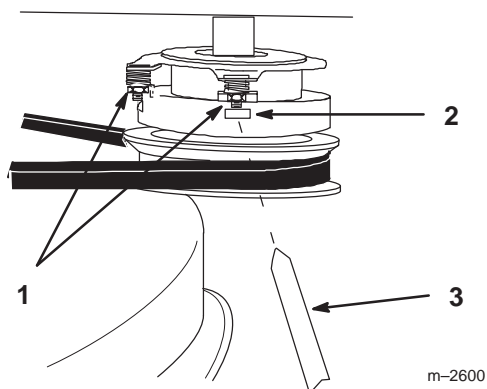

Figure 38
1. To adjust clutch, tighten or loosen lock nuts on flange studs (Fig. 38).
2. Check adjustment by inserting feeler gauge thru slots next to studs (Fig. 38).